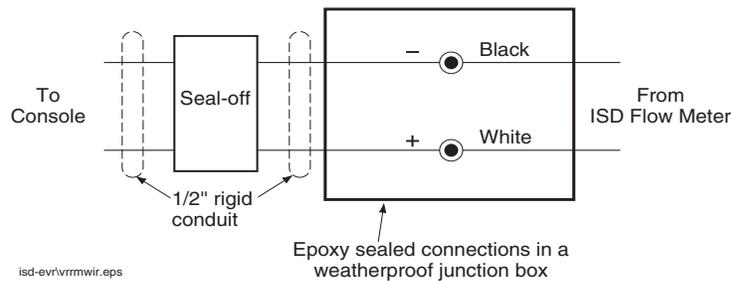

Figure 2. Field wiring Vapor Flow Meter - Observe Polarity
14. Connect the wires from the Vapor Flow Meter to the field wiring from the console and cap with wire nuts (see Figure 2).
9. Route the wiring into the junction box via the supplied cord grip assembly. Connect the wires from the Vapor Flow Meter to the field wiring from the console and cap with wire nuts (see Figure 2).